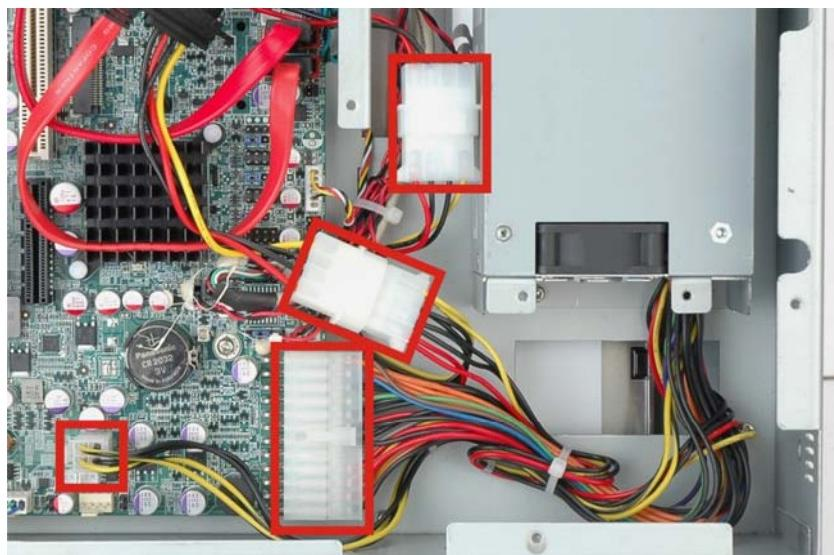

Figure 4-7: PSU Power Cables
Step 3: Disconnect all PSU connections including those to the motherboard (**Figure 4-7**) and any disk drives.